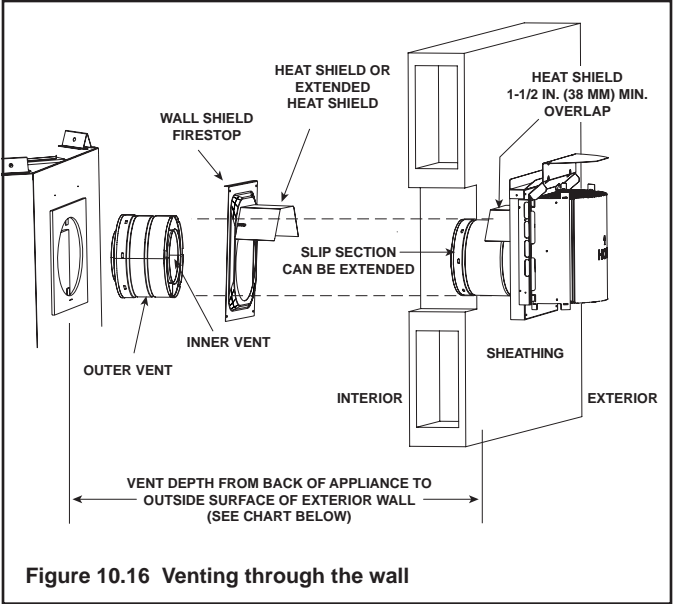

Figure 10.16 Venting through the wall
- **DO NOT** remove the heat shields attached to the wall shield firestop and the horizontal termination cap (shown in Figure 10.16).
There are two sections of the heat shield. One section is factory-attached to the wall shield firestop. The other section is factory-attached to the cap. See Figure 10.16.